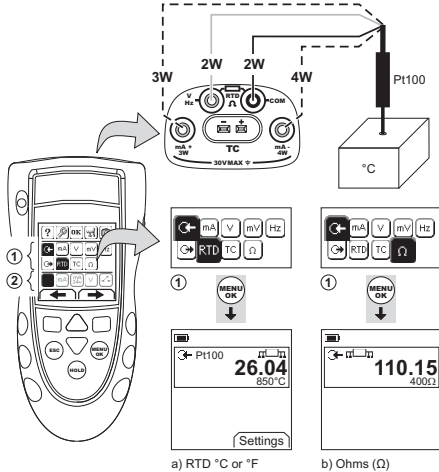
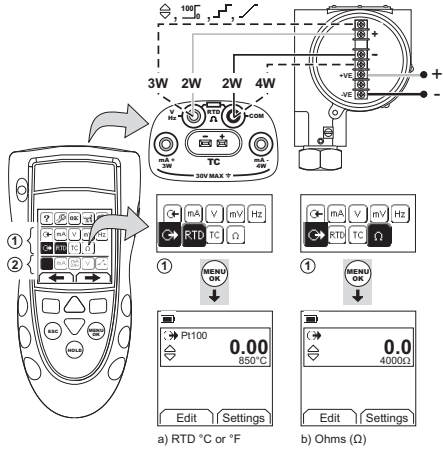

Figure 7: Example Configuration - To Measure the Temperature or Resistance
Figure 8: Example Configuration - To Simulate the Temperature or Resistance
1. Connect the instrument (Figure 7 & Figure 8) and, if necessary, adjust the Set Up (Table 1).